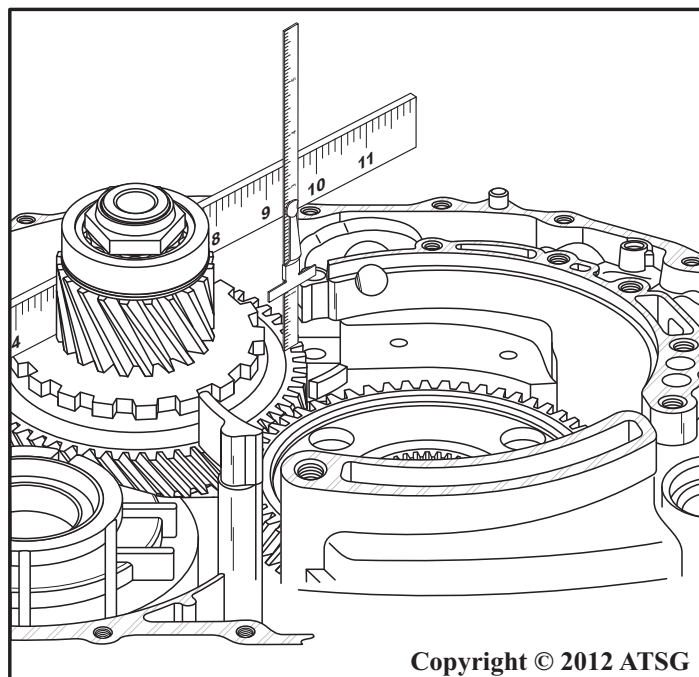

Figure 73
42. Before removing the direct planetary carrier and transfer driven gear assembly, measure the depth of the transfer gear below the case surface, as shown in Figure 73, and record measurement for final assembly process.